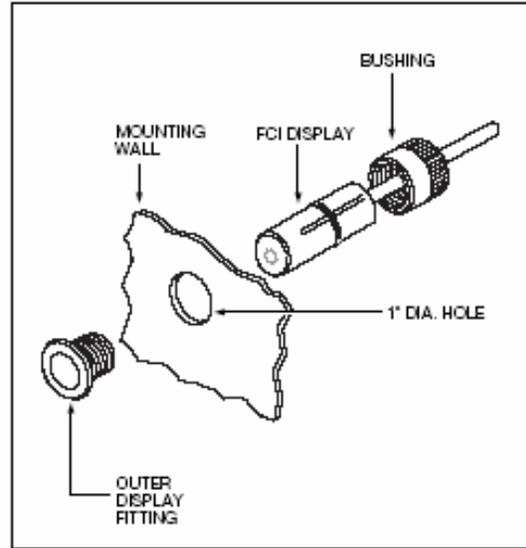

Figure 7.
1. Drill one 1" diameter hole as shown in Figure 7. Hole rim may need to be treated for corrosion resistance. Consult enclosure manufacturer for recommendation.